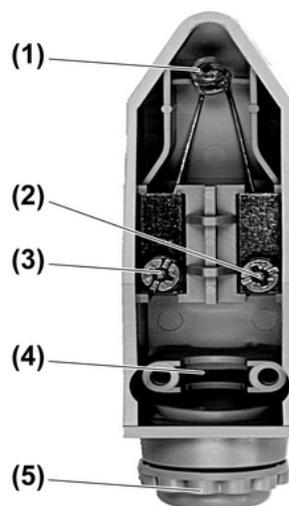
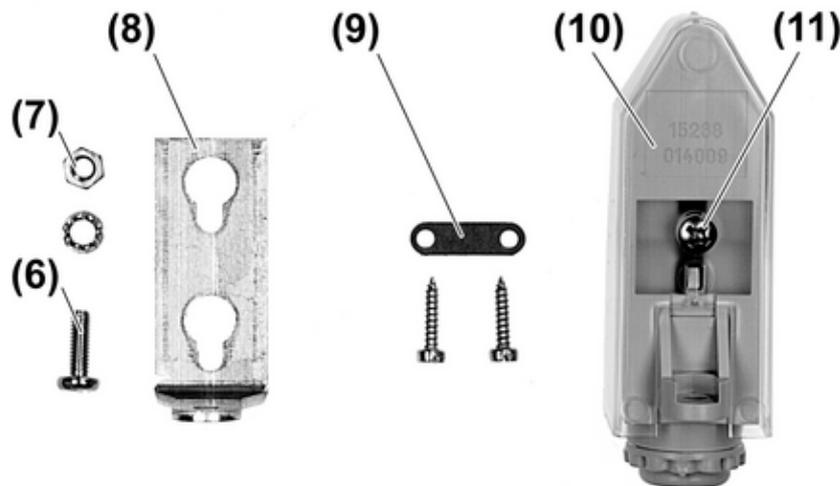

Figure 1: Sun sensor front view
Figure 2: Sun sensor and included accessories.
- Mount the sun sensor using the mounting bracket (8) in position suitable for brightness measurement with the cable entry facing downwards (Figure 2).
- Fasten mounting bracket (8) and housing using supplied screw (6), washer and nut (7).
- Insert sensor cable into the housing from below (5).
- Connect sensor cable to sun (2) and earth (3) terminals (Figure 1).
- Secure sensor cable with strain relief (9).
- Push on transparent housing cover (10) from above until it snaps into place and secure from rear with supplied screw (11) (Figure 2).